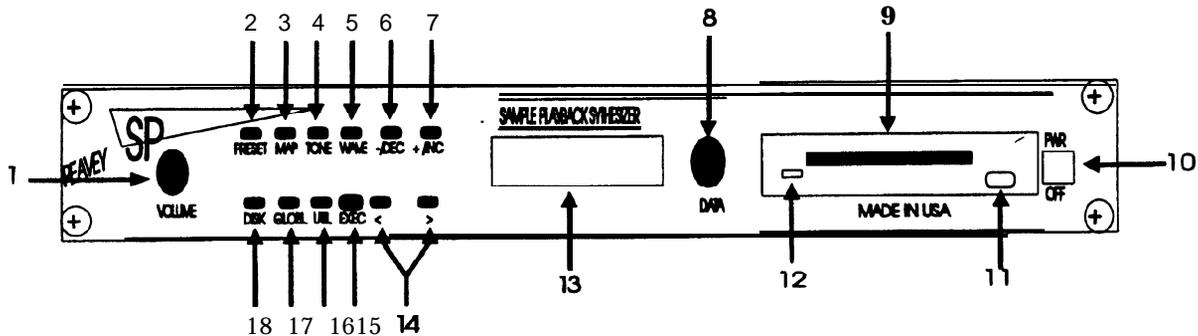

Figure 2-7. Sampler/Playback Synthesizer Controls and Indicators
2.1.7 Sampler/Playback Synthesizer. The following controls and indicators are located on the Sampler/Playback Synthesizer (S/P), shown in Figure 2-7: